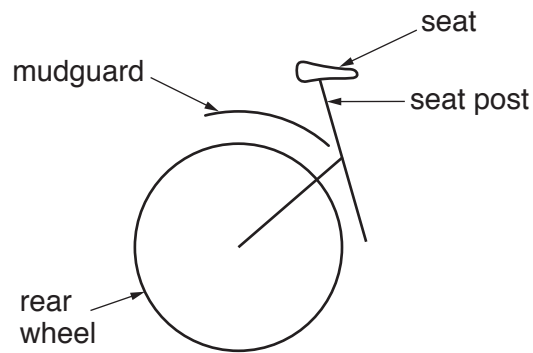

Fig. 8.1
- 8 Fig. 8.1 shows an incomplete idea for a rear bicycle mudguard.